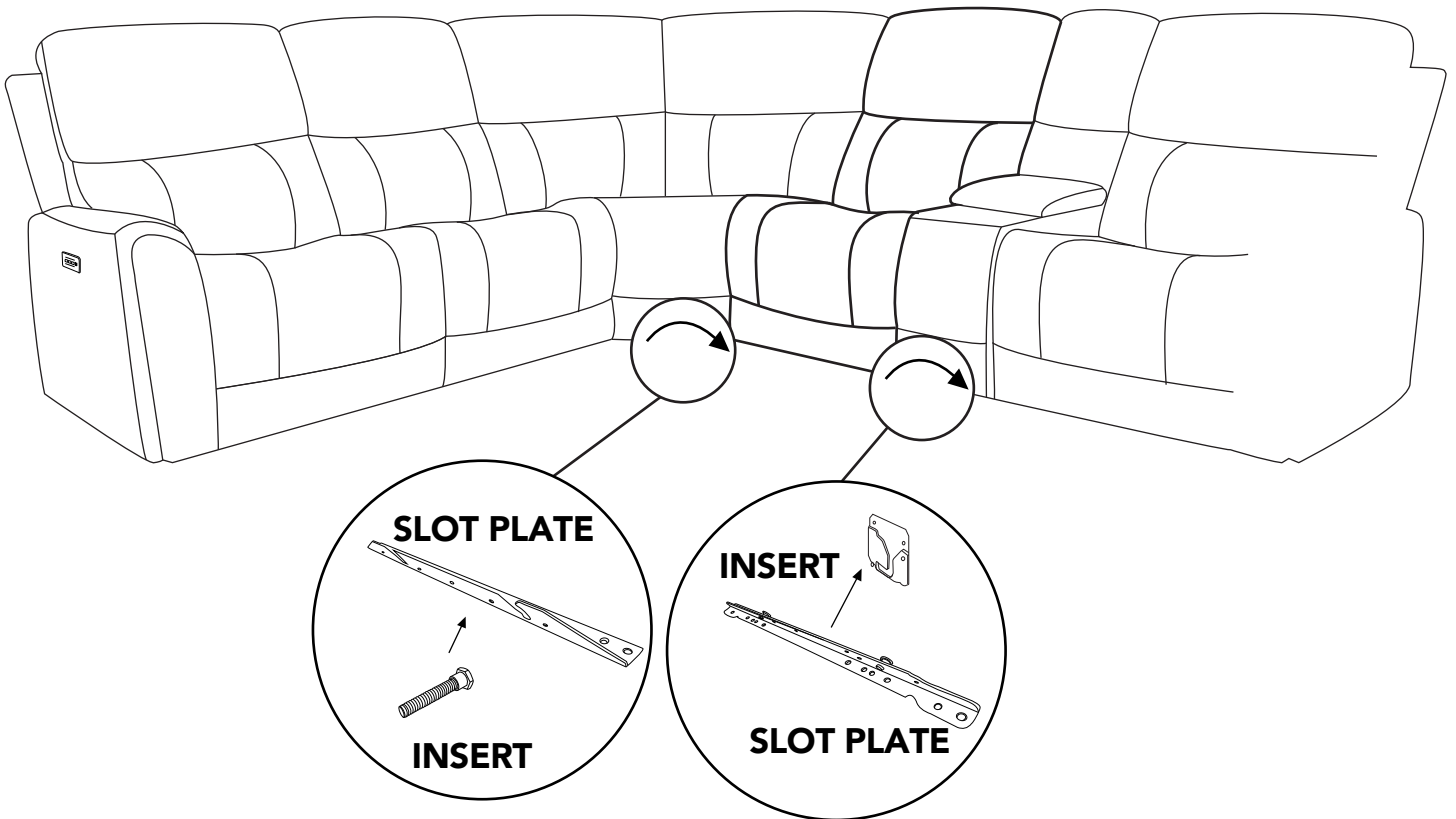

Figure 4.1
- 4** You can connect two or more recliners by connecting each position with male and female buckle as Figure 4.1 illustrated.
(See Figure 4.1)